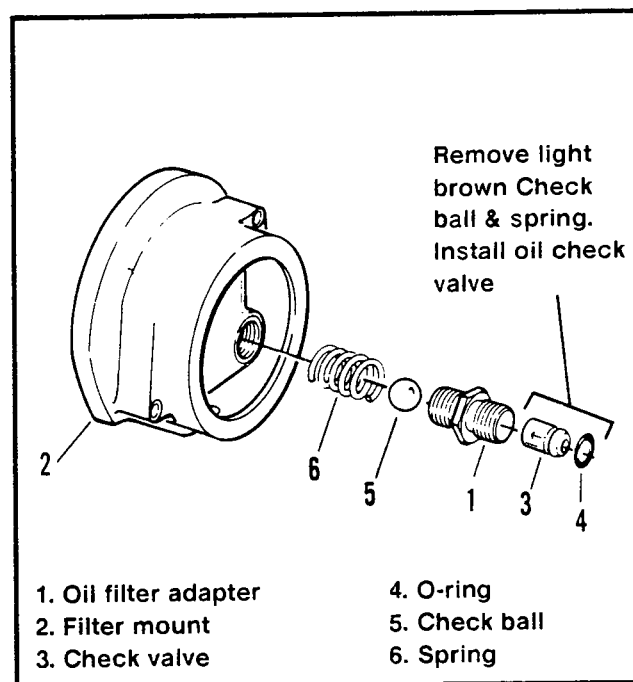

Figure 2. Or
See Figure 2. Remove the light brown check ball (5) and spring (6). Install the old style oil check valve (3) and O-ring (4).